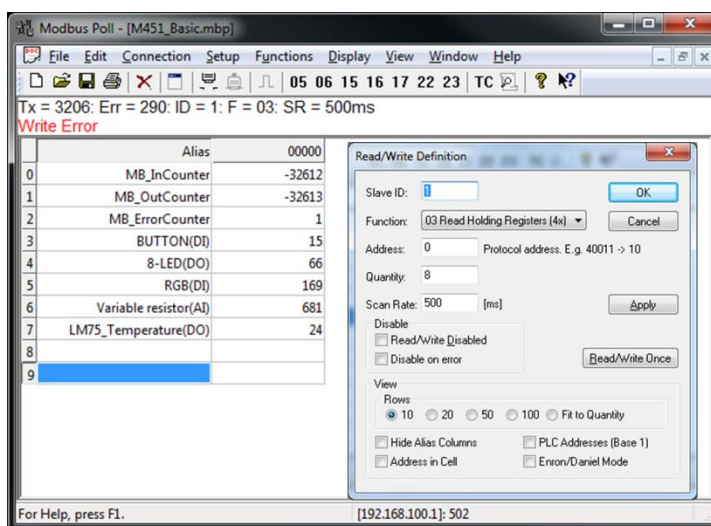

Figure 1-4 Modbus register Read/Writer setting for NuWicam sample
**Data register polling** - You can open 'Read-Write Definition' to set modbus slave paramters. At first, input '1' into 'Slave ID' textedit, select '03 Read Holding Registers (4x)' in 'Function' combo list, input '0' into 'Address' textedit, input '8' into 'Quantity' textedit and input '500' into 'Scan Rate' textedit. Finally, press 'OK' to start polling data. You also refer below Figure 1-4 to fill settings.